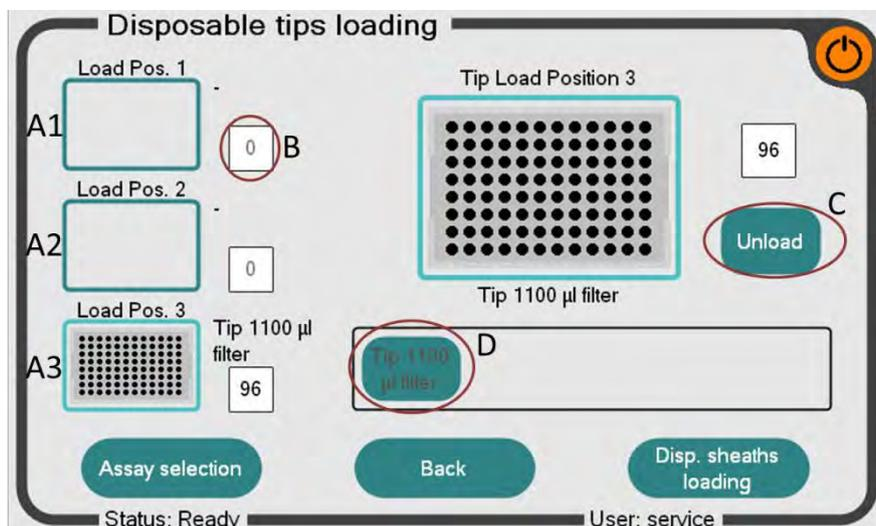

Figure 8, Disposable tip loading screen
There are three tip rack positions on the InviGenius® system (Fig. 8, A1-A3). Remaining tip-numbers are shown in field (B). Tip-numbers can be changed by pressing the number-field directly.